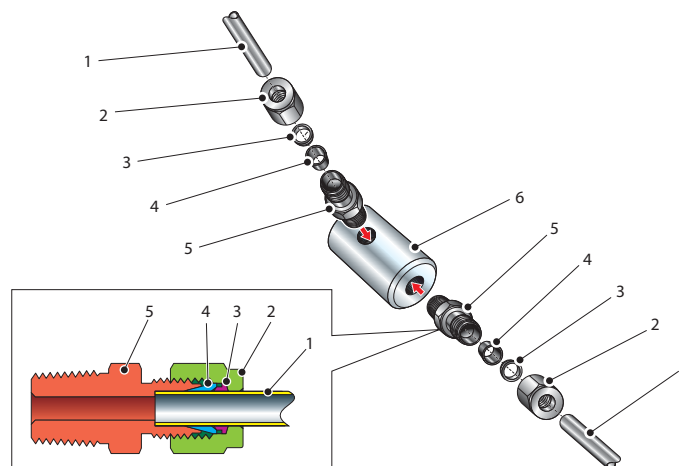

Figure 8 *Sample Block Gas Connections*
Sample gas connections are made to the Gas In and Gas Out ports on the sample block see *Figure 8*. Either port on the sample block may be used as the Gas Input port (i.e. for connection purposes the ports are interchangeable).
Both the Input and Output gas connections are $\frac{1}{8}$ " NPT. It is recommended that both the Gas Input and Output connections are made via $\frac{1}{8}$ " NPT to 6mm or $\frac{1}{8}$ " NPT to $\frac{1}{4}$ " stainless steel tube adaptors (2 to 5 - *Figure 8*). The method of connection to the sensor block (6) is as follows: